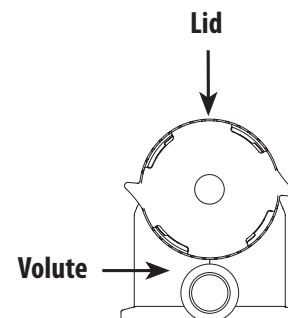

FIGURE 3
9. Make sure the lid O-ring is properly placed. Seat the lid then turn clockwise until hand tight (**DO NOT** over tighten with tools) (Figure 3).